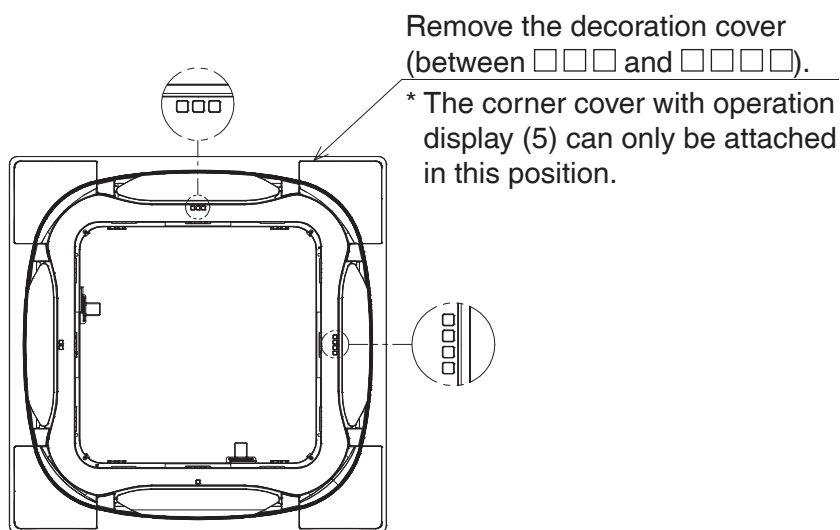

Figure 16
2. Remove the decoration cover at the position shown in **Figure 16** (marked with □□□ and □□□□).
(Refer to **Figure 16**.) (The removed decoration cover is no longer needed.)